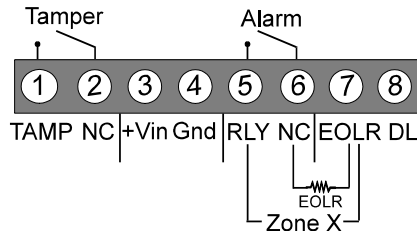

Figure 1: Terminal Block
- Connect the wires** to the terminal block (as shown in figure 1). **Note: Wiring methods shall be in accordance with the NFPA 70 standard.**
Terminal 7: Optional end of line resistor - see figure 1.